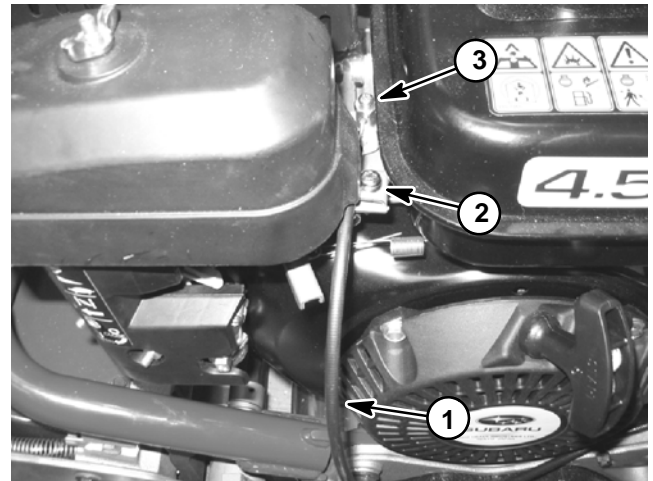

Figure 6
3. Remove throttle cable from engine (Fig. 6):
7. Connect throttle cable to engine (Fig. 6):